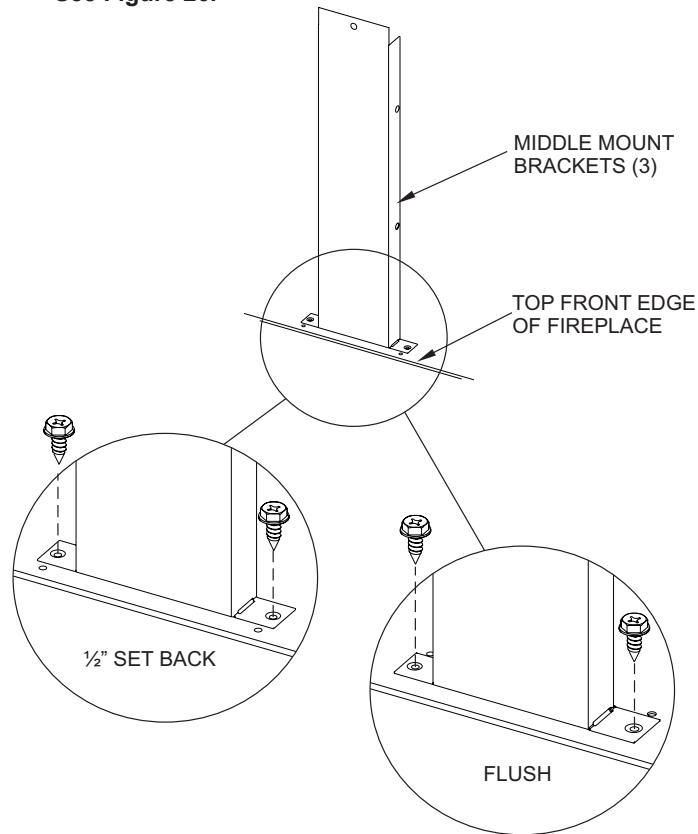

Figure 26
6. Attach three middle mount framing brackets to the top front edge of the fireplace. These brackets support the supplied non-combustible board above the fireplace. Preset depth to suit facing material (flush or 1/2in set back depths). See **Figure 26**.